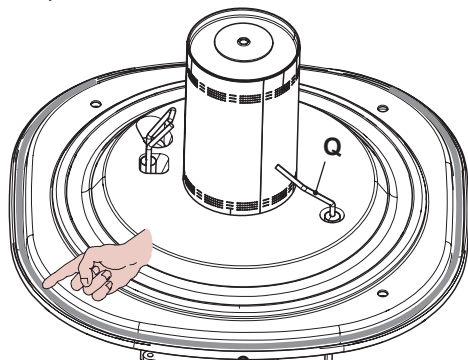
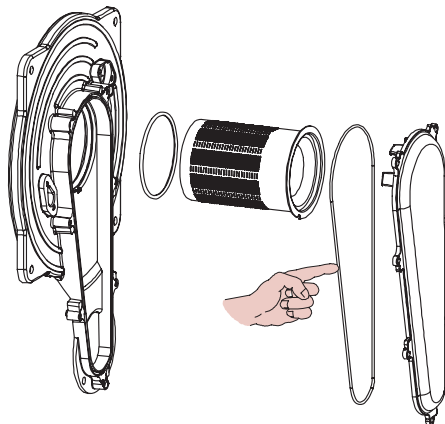

Fig. 10.14
Fig. 10.15
- The silicon seal on the front wall of the combustion chamber Fig. 10.14 and the seal on the air/gas pipe cover (Fig. 10.15) must be replaced if worn.
- The detection electrode **Q** in Fig. 10.14 also functions as a sensor for the correct drainage of the condensate. Should the mentioned electrode come into contact with the condensate water present within the combustion chamber it sends the boiler into safety lockout. Therefore, should the insulation be wet or deteriorated, provide for the substitution of the same.
Fig. 10.14 and the Air-gas duct gasket (Fig. 10.15) must be fully inspected and replaced at the discretion of the service engineer.